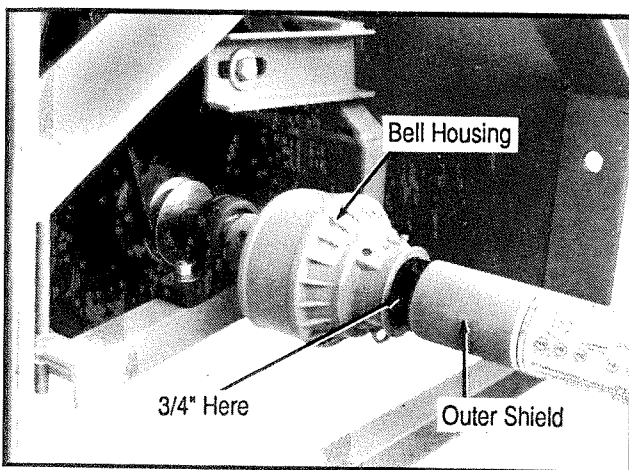

Figure 4. PTO Drive Shaft Installation
5. Allow for 3/4" clearance between the outer shield and the bell housing at the Bale Chopper end of the drive shaft. See Figure 4.